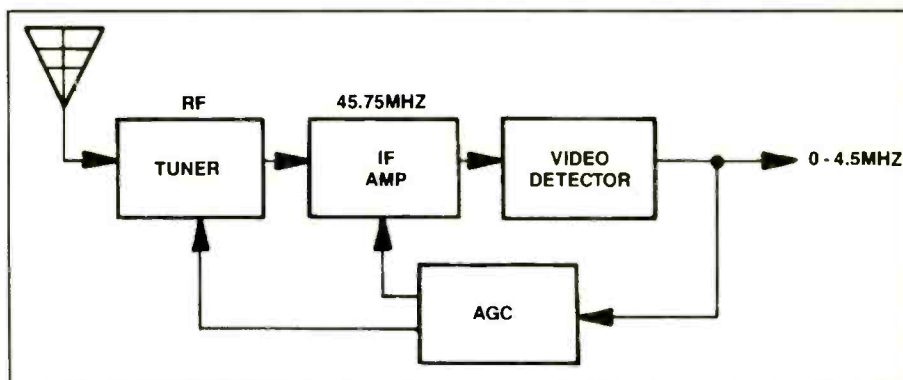

Figure 1. A block diagram of the RF and IF sections of a color TV..
All signal components received from the antenna pass through a tuner and an IF amplifier on their way to the video detector (Figure 1). The RF signal ranges in frequency from 55MHz for channel 2 up to 885MHz (tuned with the aid of an UHF converter) for channel 83. The tuner amplifies the desired frequency and converts it to an intermediate frequency (IF) of 45.75MHz. The IF signal is then amplified in the IF amplifier.
The output level from the video detector is usually about 3V_{pp}. Keep in mind that the amplitude of the signal at the antenna is often as low as 10μV rms. This means that the three blocks in Figure 1 must provide 110dB of gain. This same antenna might receive signals as strong as